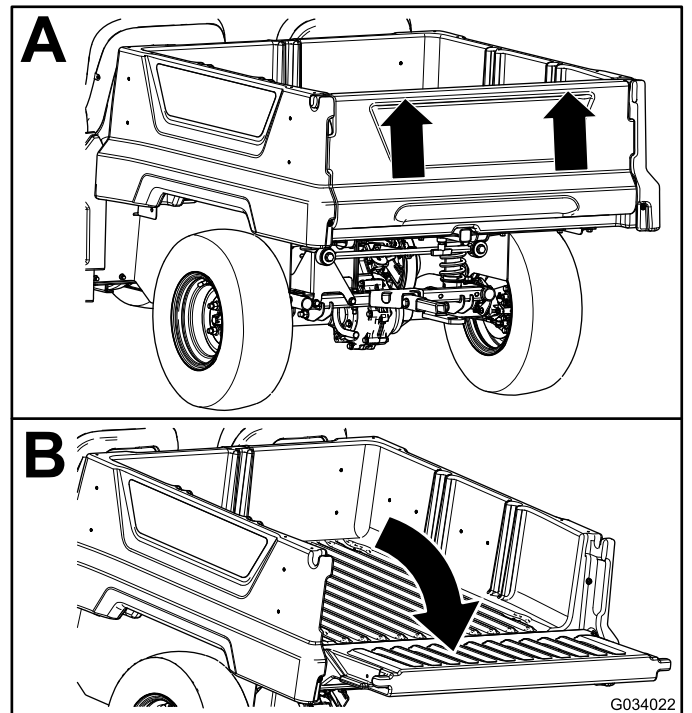

Figure 13
2. Using both hands, raise the tailgate using the ridge near the top of the tailgate (Figure 13).
3. Lower the tailgate until it is flush with the bottom of the cargo box (Figure 13).